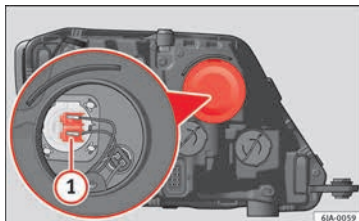

Fig. 90 Changing main beam headlight bulbs.
- Remove connector »» **Fig. 90** ① by pulling outward.